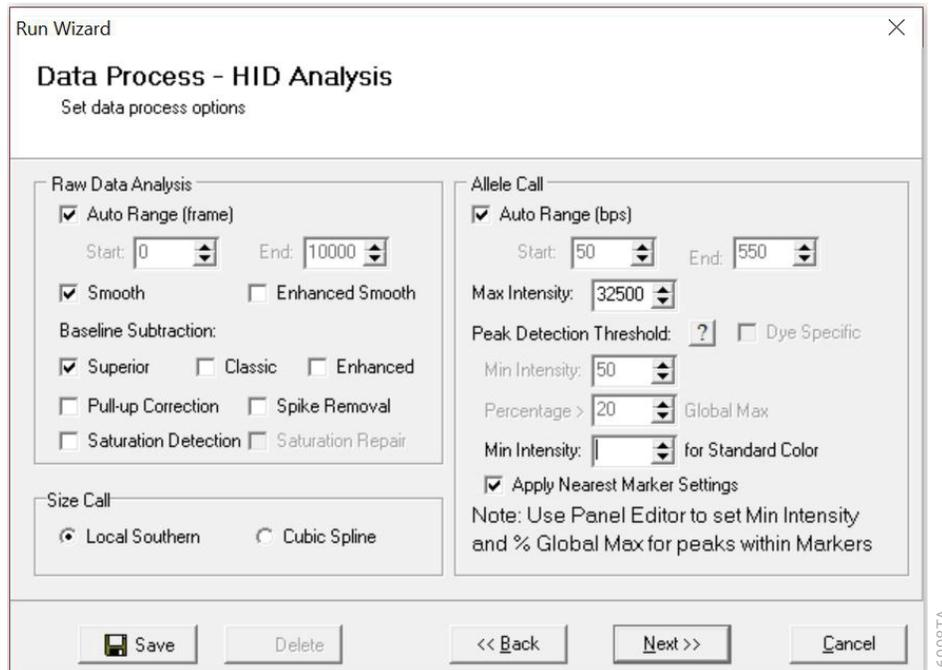

Figure 32. The 'Data Process' window for an analysis method.
9. The 'Data Process' window will appear (Figure 32). For the Raw Data Analysis, we recommend using Auto Range, Smooth, Superior Baseline Subtraction and Local Southern for the Size Call.